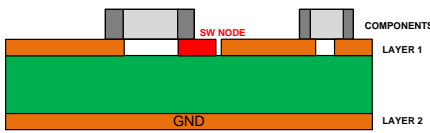

Figure 9. Cross Section Illustration of the Two Layer Board
1. A two-layer board with no ground plane shielding, as illustrated in Figure 9